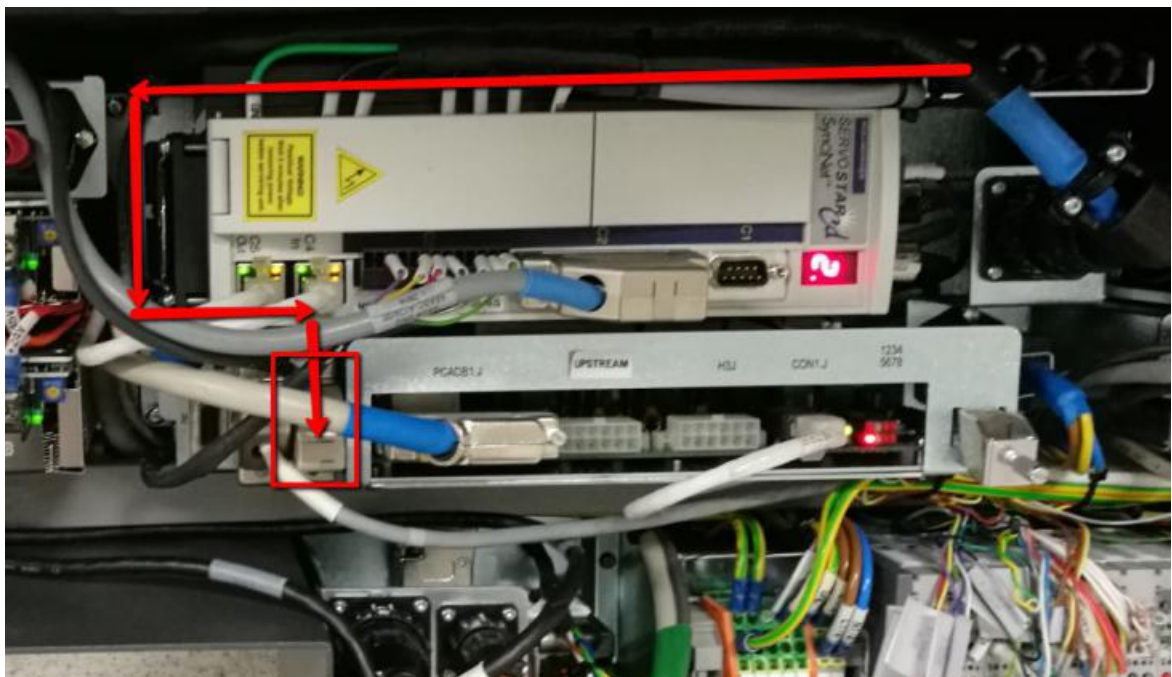

Figure 32
13. Plug X-Axis encoder cable connector back to X-Axis kollmorgen as shown in Figure 32.